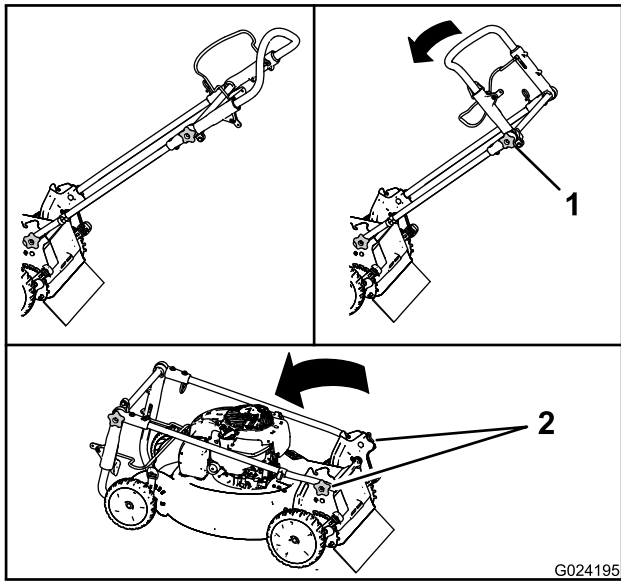

Figure 25
1. Loosen the upper handle knob (Figure 25).
2. Loosen the handle knobs until you can move the handle freely (Figure 25).
3. Move the handle forward as shown in Figure 25.